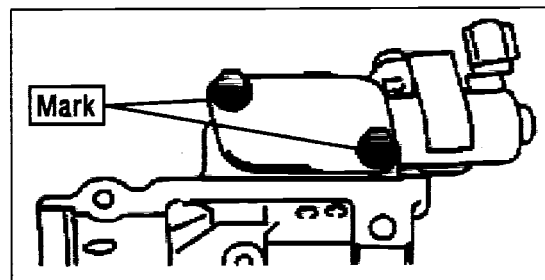

Fig.8: Oil-flow Control Valve Cover
- **If it is not**, lightly tighten the bolt using the Special Tool -- DO NOT tighten completely at this point. Then, put a paint mark on the bolt flange to mark the original position (See Fig. 8).
- **If it is**, put a paint mark on the bolt flange to mark the original position (See Fig. 8).